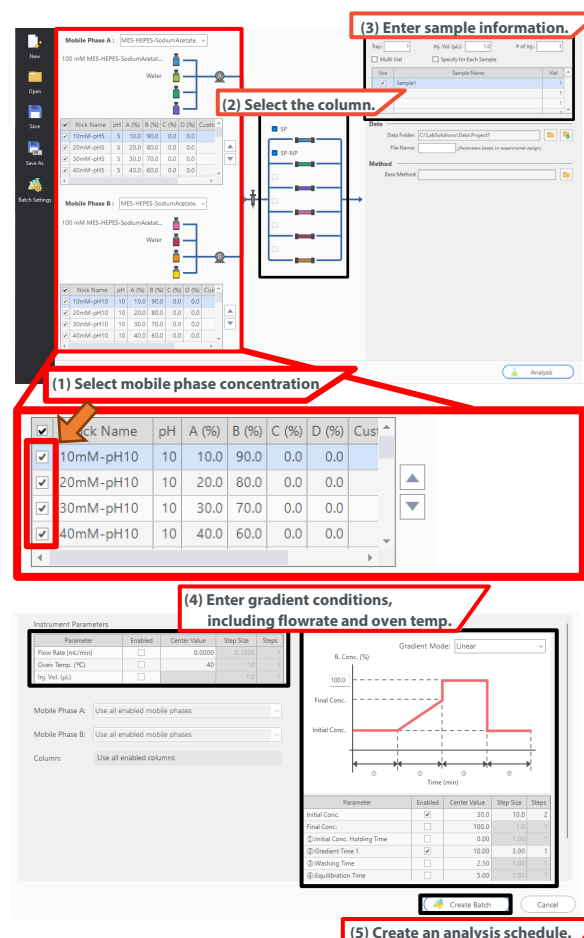

Fig. 1 Steps for Creating Analysis Schedule
LabSolutions MD can quickly and easily generate analysis schedules for a wide variety of parameter settings, such as different types of mobile phases and columns (by following steps (1) to (5) in Fig. 1). In addition, mobile phase blending functionality can automatically prepare mobile phases with different concentrations of the MES-HEPES-sodium acetate. Column switching values were used to automatically switch between columns. By simply clicking on the mobile phases or columns to use for automated screening (step (1) in Fig. 1), the mobile phases are automatically prepared to the selected spike concentrations and the column automatically switches to the selected columns. This significantly reduces the amount of work and human errors involved in manual preparation.